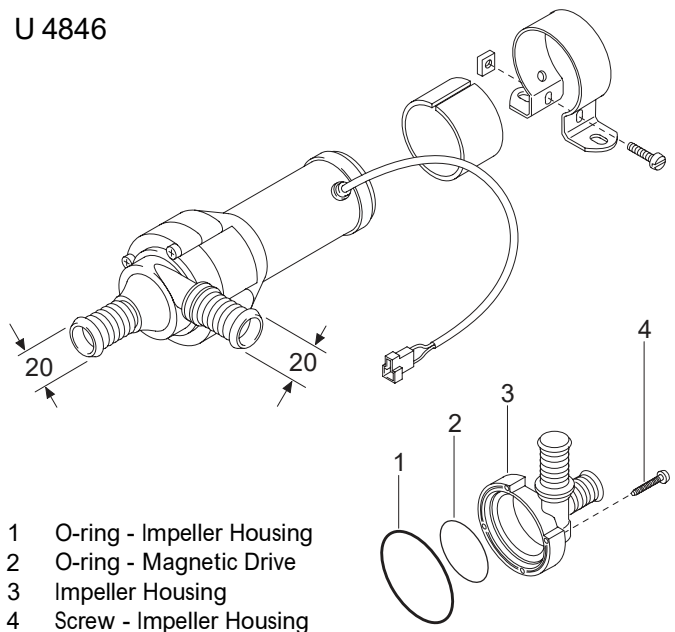

Figure 55: U4846 Circulation Pump - Exploded View
3. Assemble pump with all parts in order as shown in Fig. 53 through Fig. 55. The ceramic seal and the spring seal must be fitted as shown in Fig. 52 with the hard side of the spring seal (B) against the ceramic seal face (A).